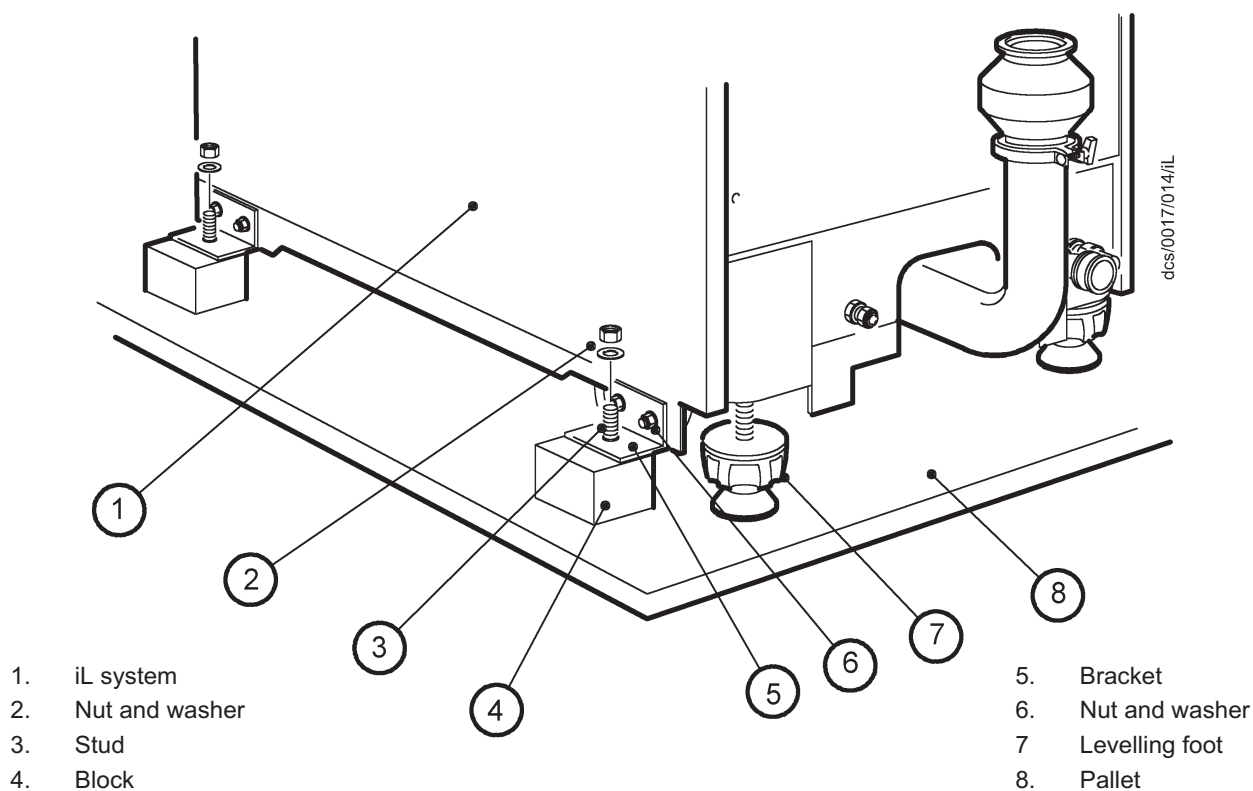

Figure 3-1 - Remove the iL system from the pallet
4. Refer to Figure 3-1. Remove the nut and washer (2) which secures each of the four brackets (5) to the blocks (4) on the pallet. Retain the nuts and washers for future use.
11. Refer to Figure 3-1. If you do not want to fit restraints to prevent inadvertent movement of the iL system (see Section 3.6), undo and remove the two nuts and washers (6) which secure each of the four brackets (5) to the sides of the iL system, then remove the brackets. Retain the brackets, nuts and washers for future use.